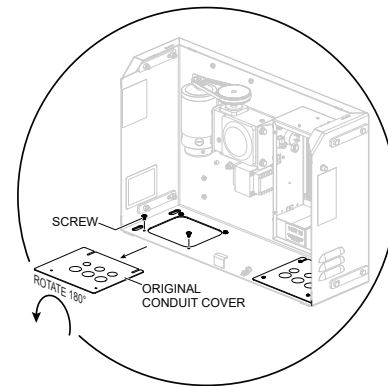

Figure 14. Conduit Cover 180° Rotation
7. Using a Philips Head screwdriver, remove conduit cover panel (2). Rotate conduit cover panel (2) 180° and reinstall for rodent protection. See Figure 14.